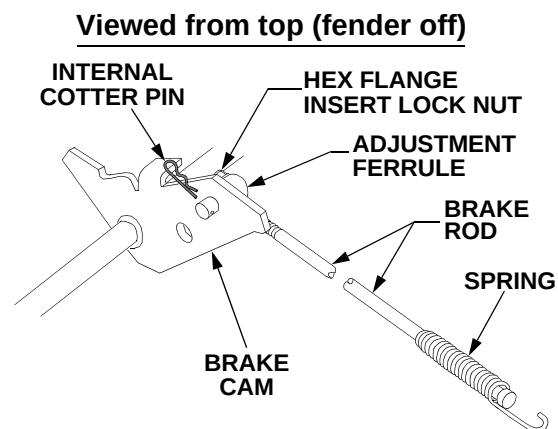

Figure 6-3
To adjust the braking force proceed as follows (Refer to Figure 6-3):
- Remove the internal cotter pin from the brake rod adjustment ferrule and withdraw the ferrule from the brake cam. See Figure 6-3.